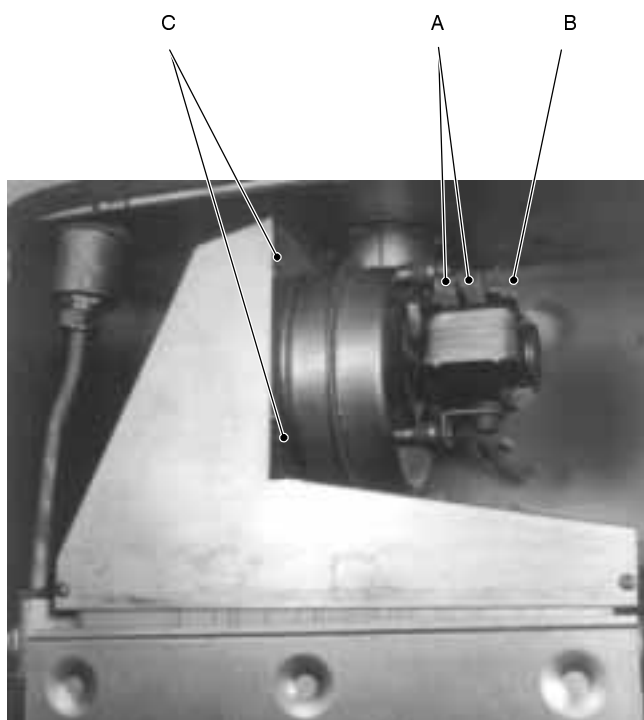

fig. 73
Disconnect the connectors A (fig. 73) and measure the electrical resistance of the motor that has to be about 47  $\Omega$ .
- 2 disconnect the connectors A and the earth connection B (fig. 73);